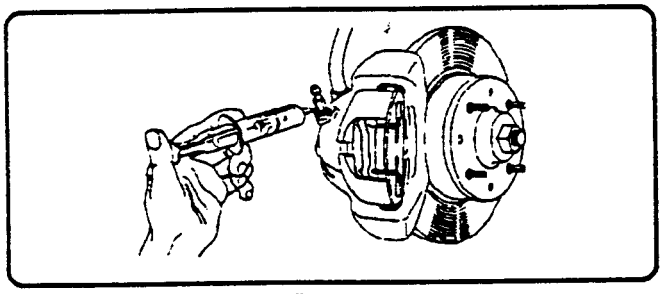

fig. 2
3. Apply copper grease around the brake nipple and its thread (fig. 2).